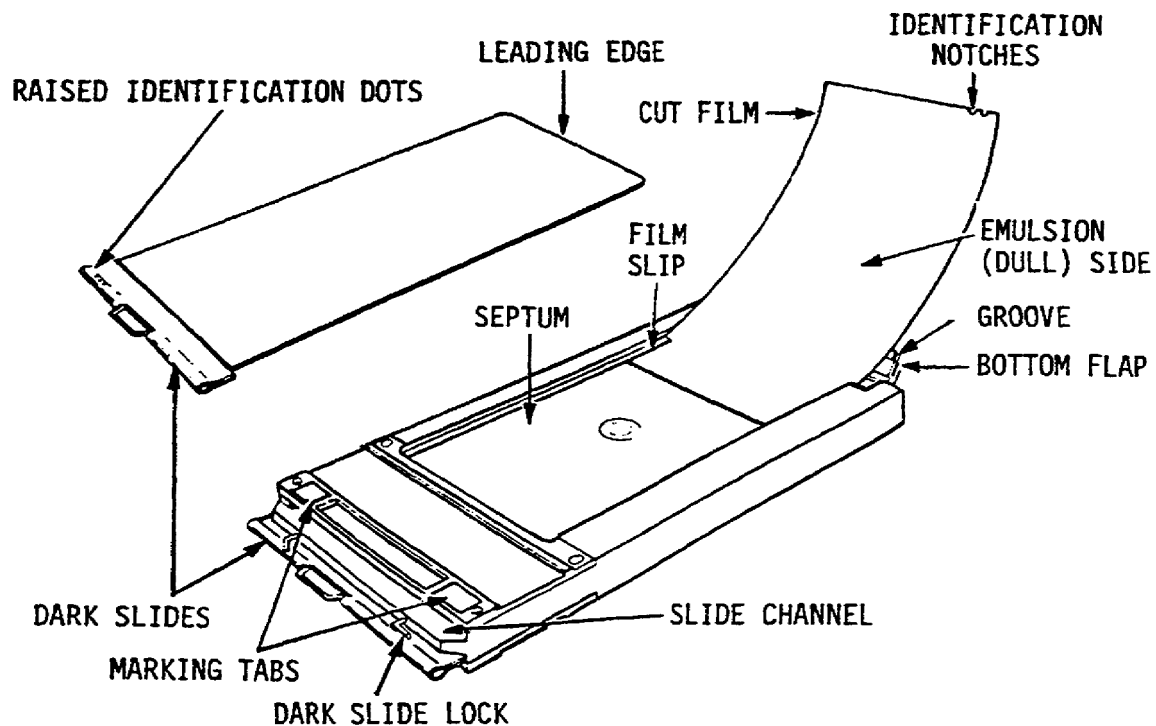

Figure 1-30. Cut Film Holder.
b. We will talk you through step by step on how to load your film. Study fig 1-30 first, then read on and you will be able to load your film correctly. REMEMBER, it MUST be done in TOTAL DARKNESS.